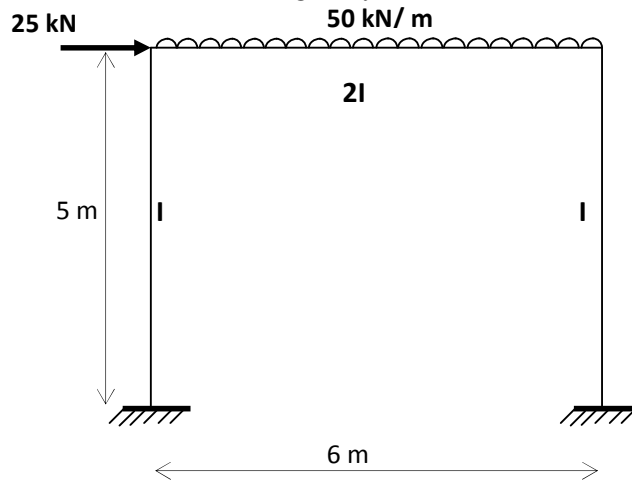

Fig.3
6. Analyse the frame shown in the Fig.3, by Kani's method.